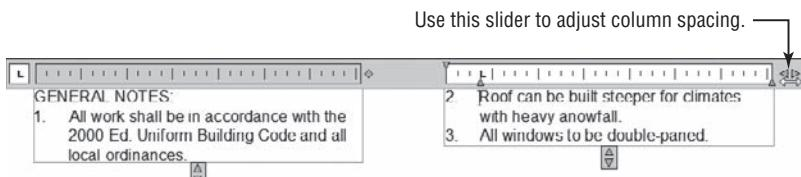

FIGURE 8.59 Using the column slider to adjust column spacing
17. Use the double-arrow to the far right of the Mtext Editor to position the new column closer to the first column on the left as shown in Figure 8.59.